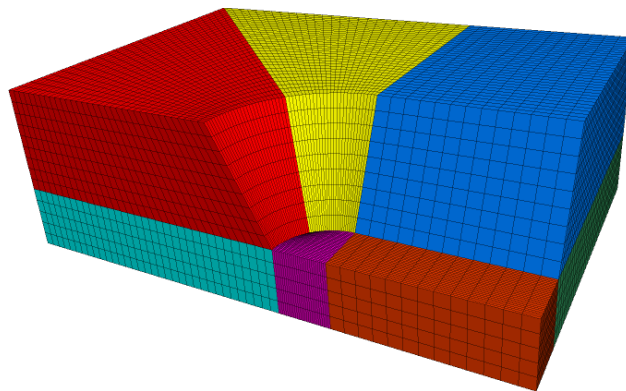

Figure 87: *BlockRanger* run with **MaxEdgeLength** = 3.0.
5. Selecting all **solids**, rerunning **BR** and setting **MaxEdgeLength** to **3.0** results in the grid in Figure 87.